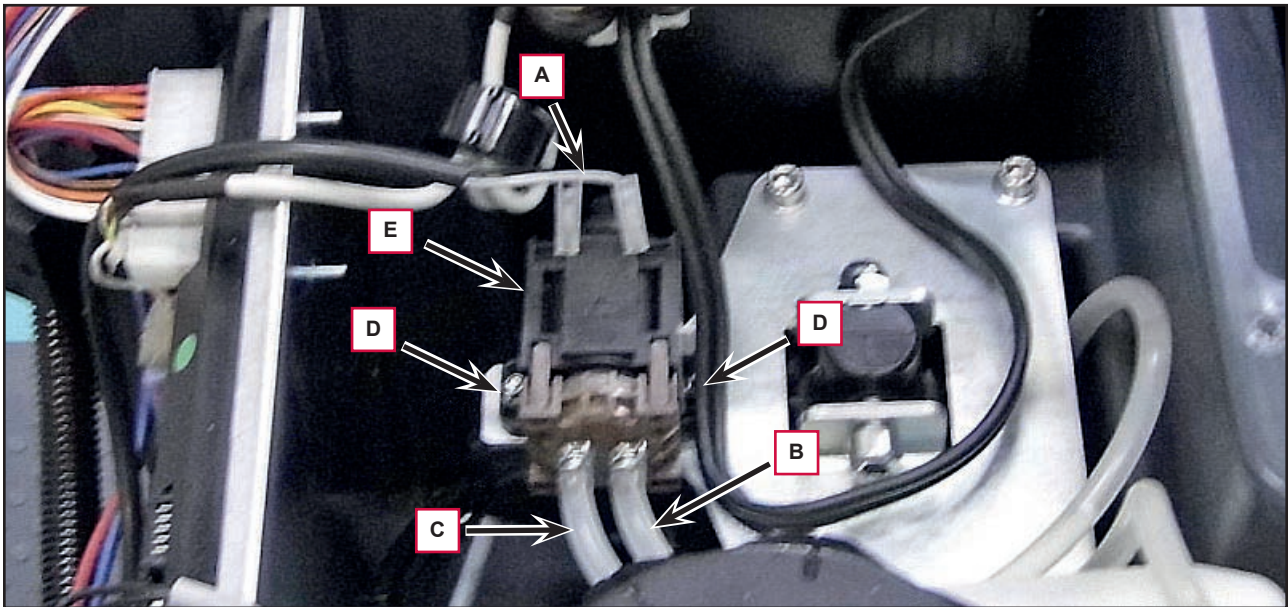

Figure 13
4. Disconnect the connectors (A) (Figure 13), the tank hose (B) and brush hose (C).
5. Unscrew the two screws (D) and remove the detergent pump (E).